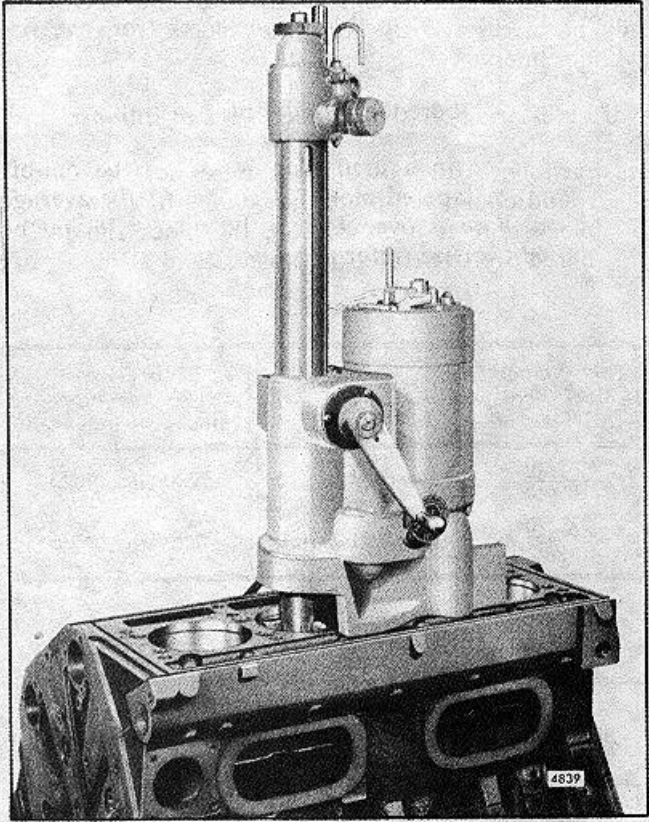

FIG. 11 - Portable Boring Bar
- b. A typical commercially available portable boring bar is illustrated in Fig. 11. Instructions on correct use of the boring bar are provided by the manufacturer.